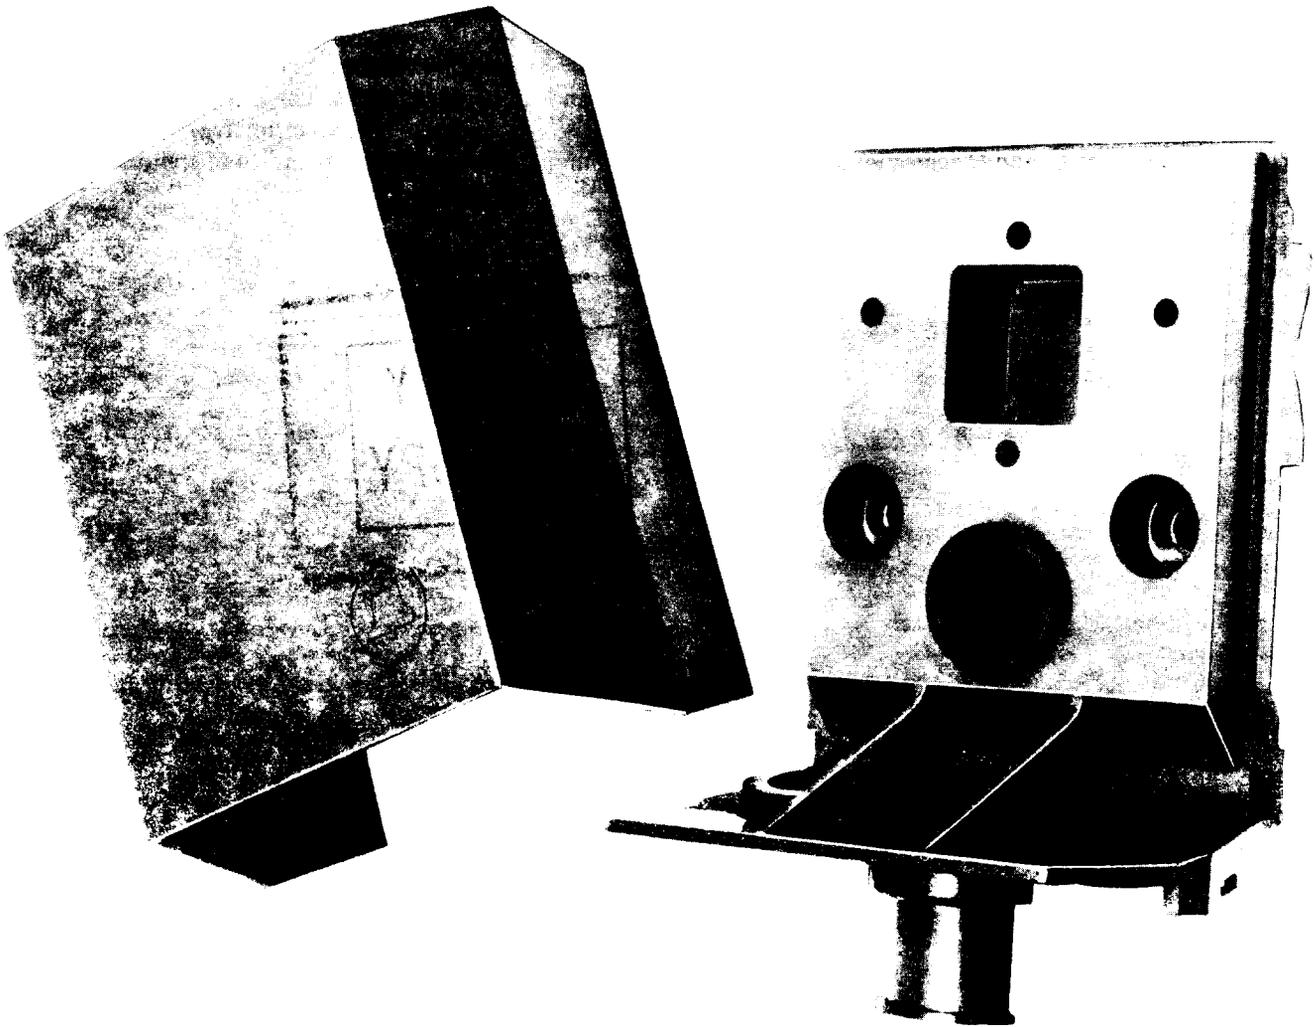

Fig. 1 — Customer Service Closure (B Closure Shown)
2.02 Customer service closures are furnished as a base and snap-on cover (Fig. 1). Also supplied are two KS-20986-L4X cable ties and protector mounting screws.